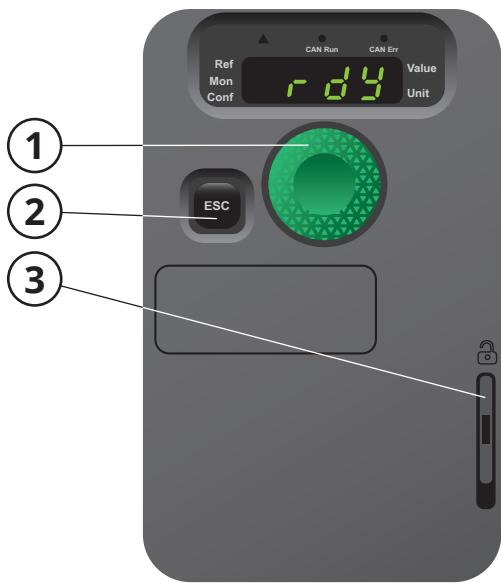

Fig. 1
All programming is executed on the keys at the front display (see **Fig. 1**). The jog dial (1) is used for navigating the menus and to select or confirm information. The ESC key (2) quits a menu/ parameter or clears and reverts the value. The front panel is opened via button (3).